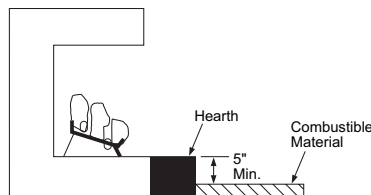

Figure 9 - Minimum Fireplace Clearances Above Combustible Flooring
- B. If combustible materials are less than 14" to the fireplace, you must install appliance at least 5" above the top surface of combustible flooring including tile and carpet (see Figure 9).